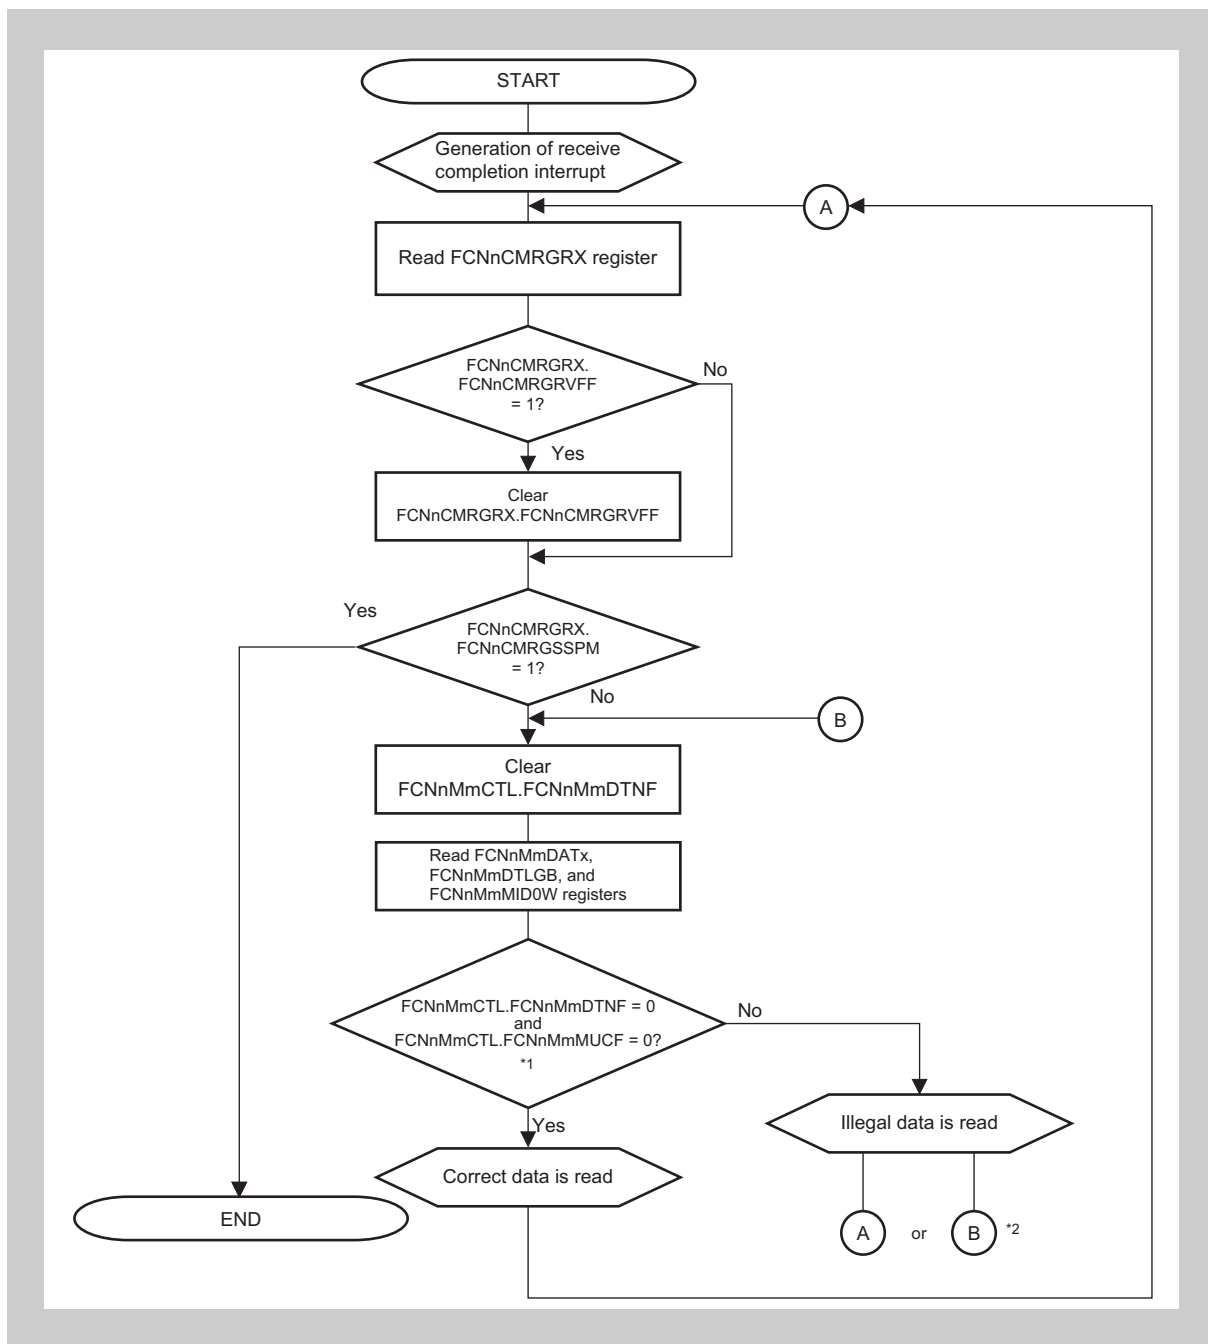
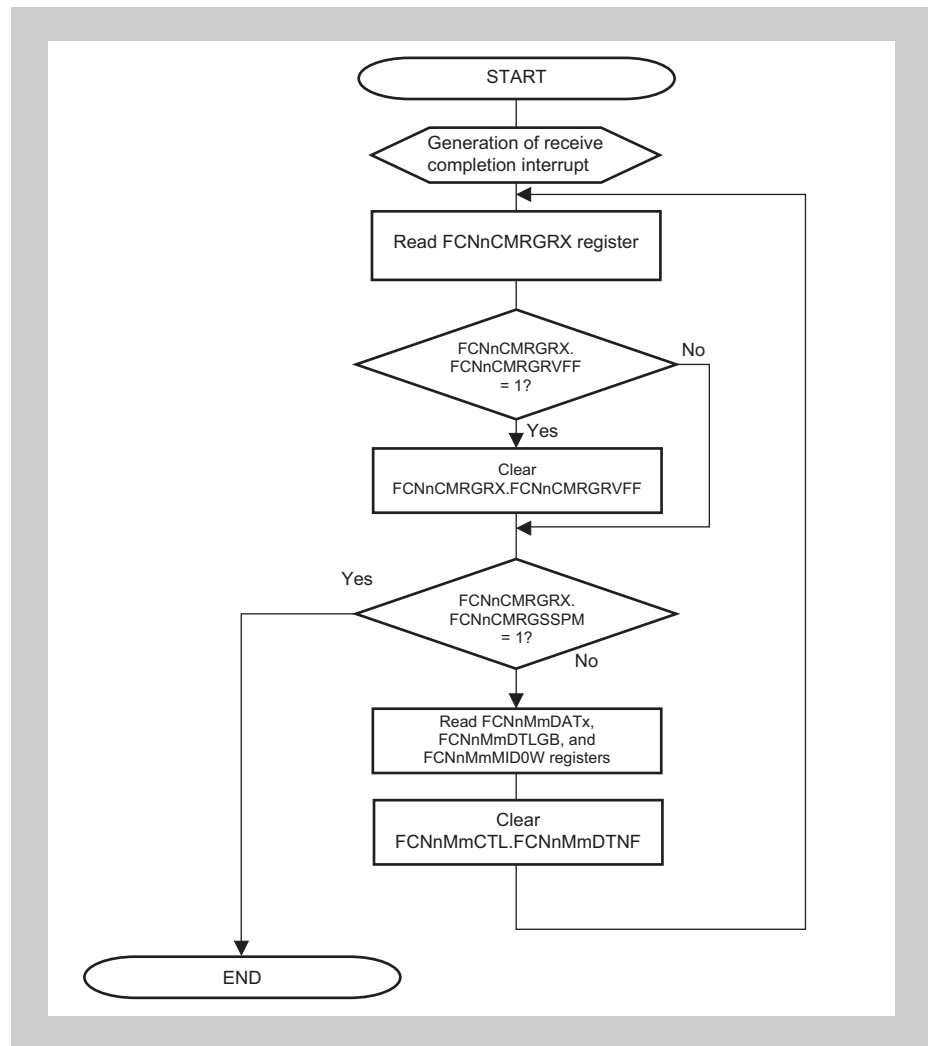

Figure 20-32 Reception via Interrupt (Using FCNnCMRGRX Register)
Figure 20-33 Reception via Interrupt (Using FCNnCMRGRX Register), Alternative Way
- Note 5. Figure 20-33, Reception via Interrupt (Using FCNnCMRGRX Register), Alternative Way, Alternative Way, is available as an alternative of Figure 20-32, Reception via Interrupt (Using FCNnCMRGRX Register).